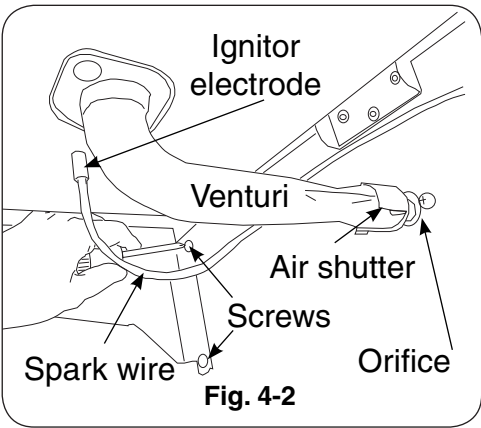

Fig. 4-2
Align the four (4) holes in the shelf with the four (4) holes in the side of the cart while aligning and engaging the burner venturi with the orifice (Fig. 4-2). Insert the four (4) screw (provided) into the holes and tighten. Connect the spark wire to ignitor electrode (Fig. 4-2). Open sideburner lid, set cap on burner, and set grid into shelf.